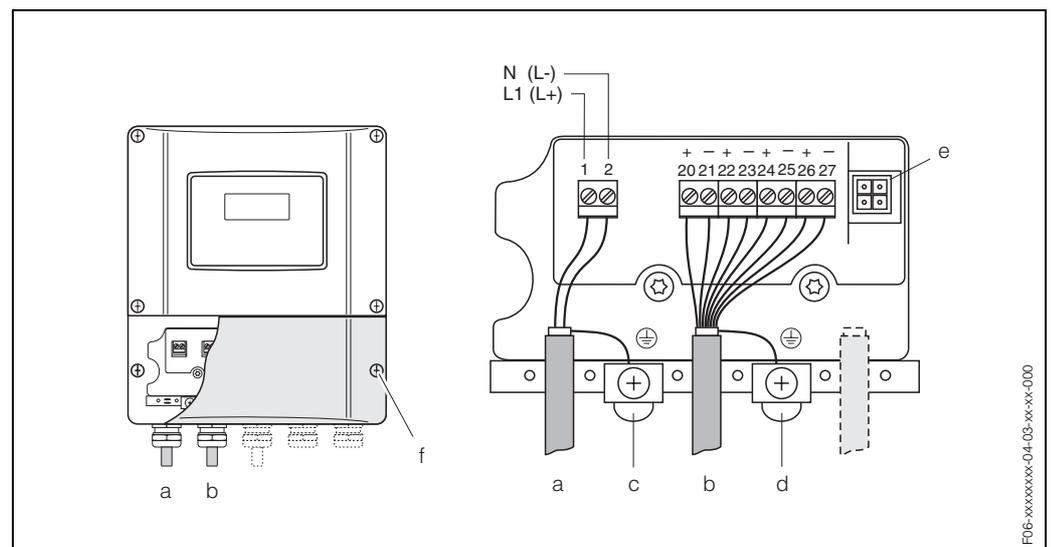

Fig. 19: Connecting the transmitter (wall-mount housing). Cable cross-section: max. 2.5 mm²
- Wiring diagram (wall-mount housing) → Fig. 19